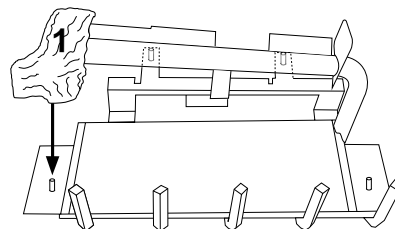

Figure 45 - Installing Log No. 1
1. Place log #1 (base log) onto pin on left front side of grate as shown in Figure 45.